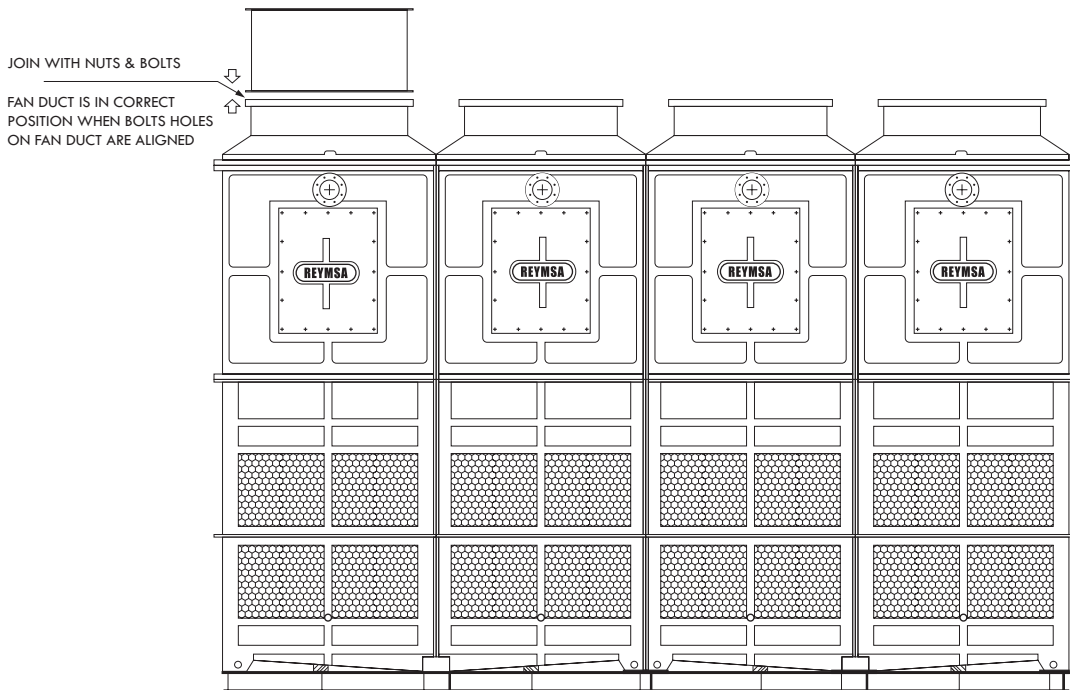
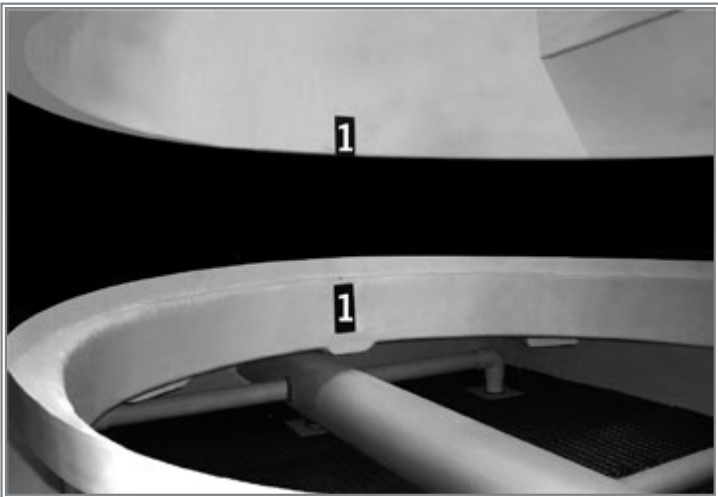

Figure A-32: fan duct 1 installation
Figure A-33: Fan duct alignment
N. Identify each fan duct, they are labeled with a number on the inside in the lower edge; to ensure a correct installation, this number must match the number on the corresponding receiving flange. Now place fan duct 1 on the receiving flanges of tower cover section 1 and then secure the flanges with the stainless steel nut and bolt sets supplied by REYMSA (see Figure A-32); make sure the bolt holes and the marks inside the fan duct and receiving flange are aligned (see Figure A-33).